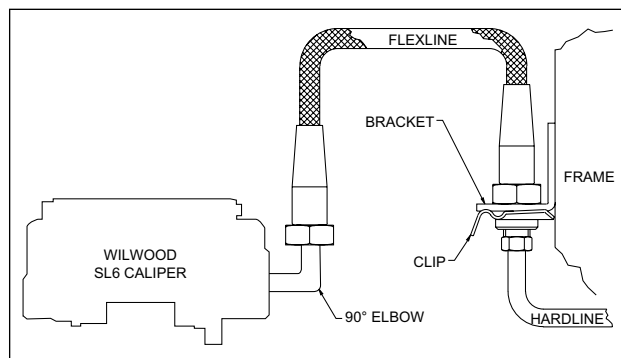

Figure 4. Brake Line Diagram
- Install Wilwood's optional stainless steel braided flexline hose kit, *part number 220-8338 (NOT included in kit)*, see Figure 4. **NOTE:** OEM rubber brake hoses generally cannot be adapted to Wilwood calipers. The caliper inlet fitting is a 1/8-27 NPT. The preferred method is to use steel adapter fittings at the caliper, either straight, 45 or 90 degree (use PTFE tape on pipe threads of adapter fitting for proper sealing to caliper) and enough steel braided line to allow for full suspension travel and turning radius, lock to lock. **Carefully route lines to prevent contact with moving suspension, brake or wheel components.** Wilwood hose kits are designed for use in many different vehicle applications and it is the installer's responsibility to properly route and ensure adequate clearance and retention for brake hose components.